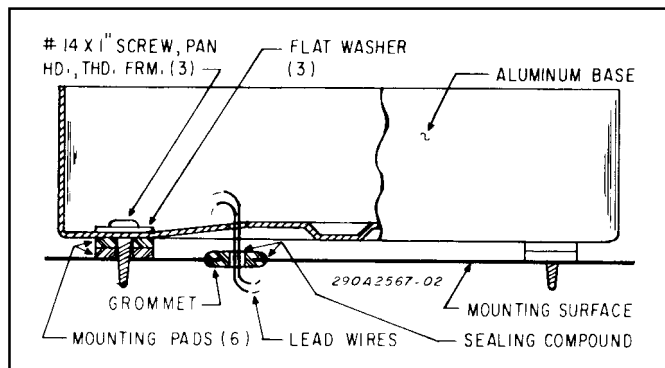

Figure 2.
6. Carefully position the light over the mounting holes and wire routing hole. Inspect the installation to determine if the base of the light is level. If necessary, place one or more mounting pads between the base and the mounting surface at the mounting hole locations (see figure 2). Temporarily place the light aside.
11. See figure 2. Secure the base to the mounting surface with three thread-forming screws, flat washers, and mounting pads as determined in step 6 above.